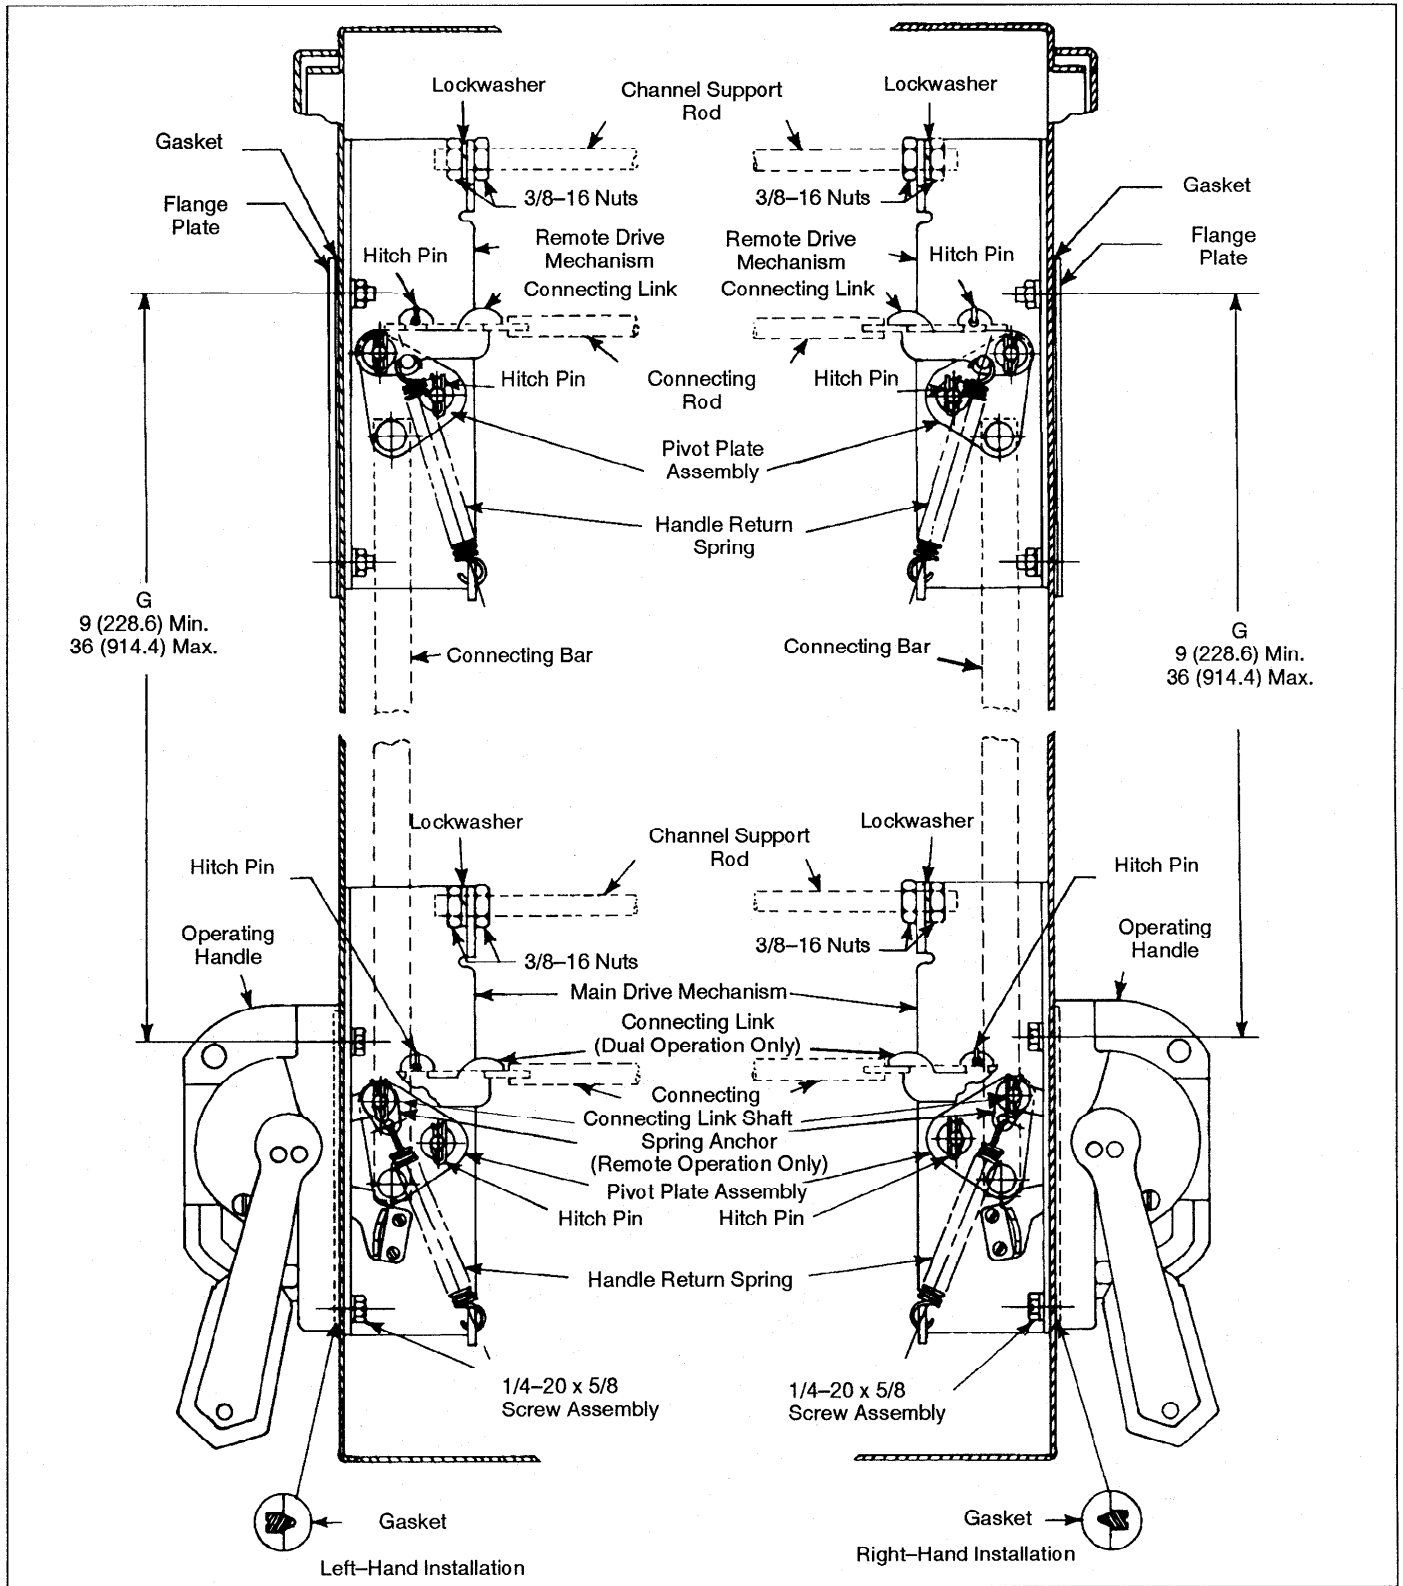

Figure 4
2. Remove the hitch pin, washer, and pivot plate assembly from the main drive mechanism, Figure 4 on Page 6. Slide the connecting bar onto the pivot plate assembly and reassemble the main drive mechanism.
3. Remove the other hitch pin, 1/4" (6.4) inside diameter washer, and the spring anchor and four 3/8" (9.5) inside diameter washers or the connecting link from the main drive mechanism assembly, see Figure 4 on Page 6. Insert the operating handle connecting link through the flange slot and onto the shaft of the pivot plate assembly as shown. Secure the drive mechanism assembly and operating handle to the flange with the two 1/4"-20 x 5/8" (15.8) screw assemblies. The gasket must be installed in the handle housing groove as shown in Figure 4 on Page 6. Torque the screw assemblies to 30-40 lb.-in.
5. Remove the hitch pin, washer, and pivot plate assembly from the remote drive mechanism, Figure 4. Fasten the remote drive mechanism bracket to the enclosure with the flange plate, gasket, lockwashers and 1/4 -20 nuts provided. Torque to 40 -50 lb.-in.
8. Mount the disconnecting means, assemble the connecting link and rod, and adjust the connecting rod as instructed in the Disconnecting Means Installation Instructions. Insert the hitch pin in the hole of the ear on the connecting link, see Figure 4.
9. Attach the handle return springs as shown in Figure 4.
4. Secure the rod to the remote (main) drive mechanism as shown in Figure 4 on Page 6 with a lockwasher and two 3/8 -16 nuts (not included in this kit). Torque to 175-200 lb.-in.